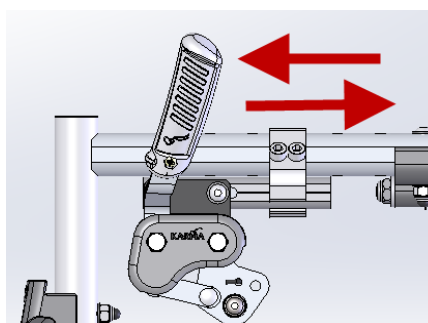

Figure 4.49
4.12.5 To adjust the interval between the tires and the brakes, first loosen the bolts and set the appropriate gap. Then re-tighten the bolts. (See Figure 4.49)